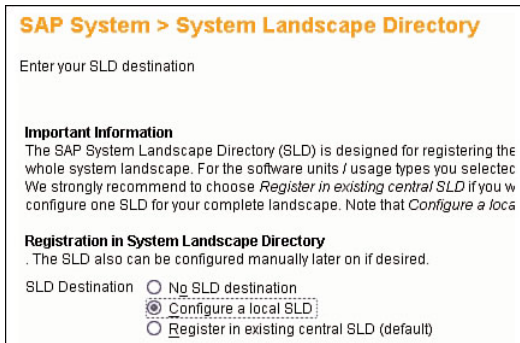

FIGURE 25.5 Select the SLD destination. For a test installation, you might select a local SLD to gain some familiarity with SAP SLD.
17. Choose the SLD destination, as shown in Figure 25.5, and click Next.